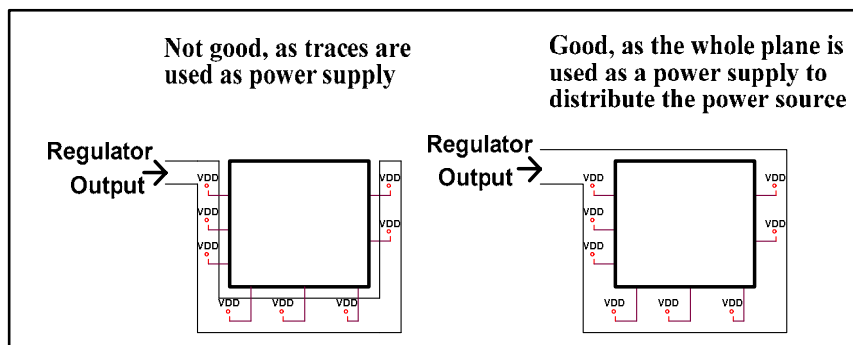

Figure 7. Power Source Distribution
To further improve the performance of the power plane, try to keep the contact area between the RTL8100C(L) VDD pins and power plane as large as possible rather than using small narrow traces (Figure 7).